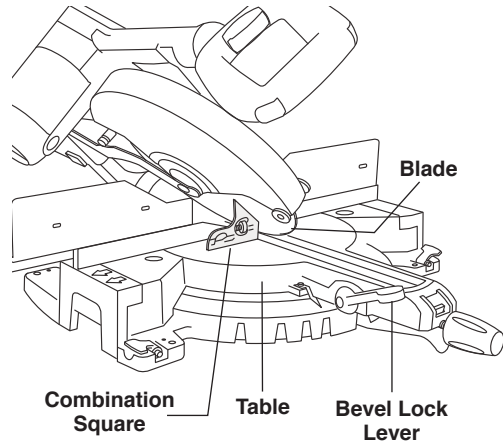

Figure 8a. Left 45° Bevel Stop
7. Use the head (remove ruler) of a combination square to check blade at the 45° stop. Place the combination square head on the table and press its 45° surface against the blade. If the blade does not contact the full length of the square, (figure 8a), follow the calibrating procedure.
4. Remove the ruler from the combination square and position with 45° surface against blade. (Figure 8a)